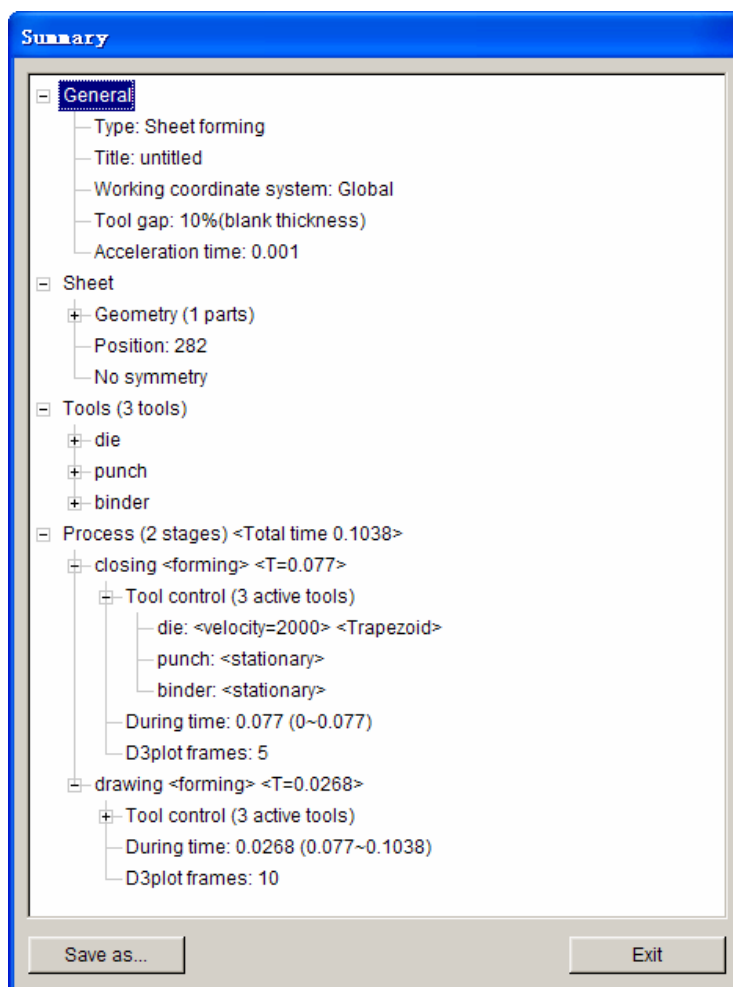

Figure 8.2.10 Summary output
**SUMMARY** — This function lists basic information of the user’s current setup, which includes stamping direction, tool, blank, process name and contact, etc. A typical Summary output is shown in Figure 8.2.10.